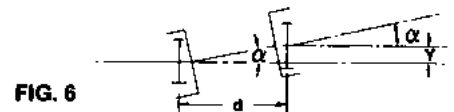

FIG. 6
- Fig. 6 shows a double engagement coupling of two meshes each having  $\pm 2\alpha^\circ$ . If the distance between meshes is "d", then the maximum parallel offset "Y" is equal to: